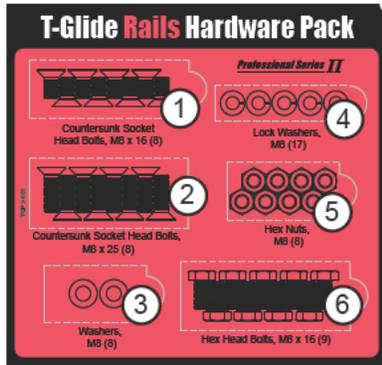
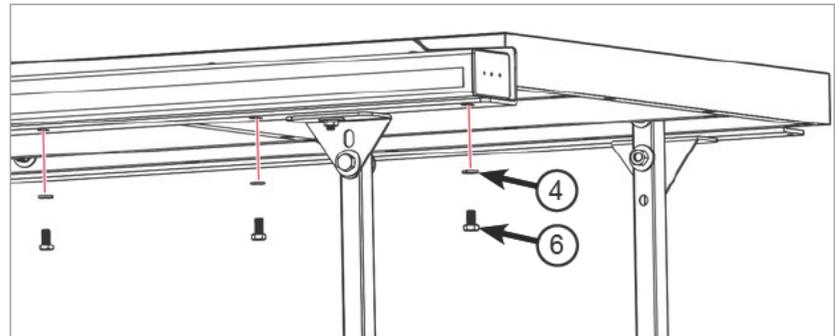

Fig. 27
Fig. 28
17. Locate the main tube and the T-Glide Rails Hardware Pack (See Fig. 27). If you have a 36" fence system, remove seven M8 x 16 hex head bolts and seven M8 lock washers from the T-Glide Rails Hardware Pack. If you have a 52" fence system, remove nine M8 x 16 hex head bolts and nine M8 lock washers from the T-Glide Rails Hardware Pack. Position the tube on the front rail with the rulers facing up and the 12-inch ruler on the left. The powder coated surfaces of the tube and rail can be slick, so be careful that the tube does not fall off the rail. Align the holes in the rail with the holes in the bottom of the tube. Place an M8 lock washer on each M8 x 16 hex head bolt and insert the bolts through the rail and into the threaded holes in the bottom of the tube (See Fig. 28). Hand tighten the bolts; do not fully tighten them.